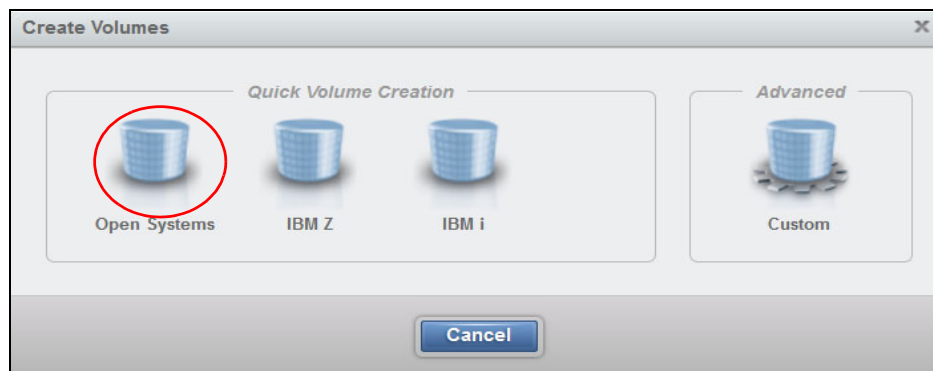

Figure 11-50 Create Open Systems (FB) volumes by using the Quick Volume Creation option
1. On the Create Volumes window, click the **Open Systems** icon, under Quick Volume Creation, as shown in Figure 11-50.
1. Click the **IBM i** icon under Quick Volume Creation, as shown in Figure 11-50 on page 315.